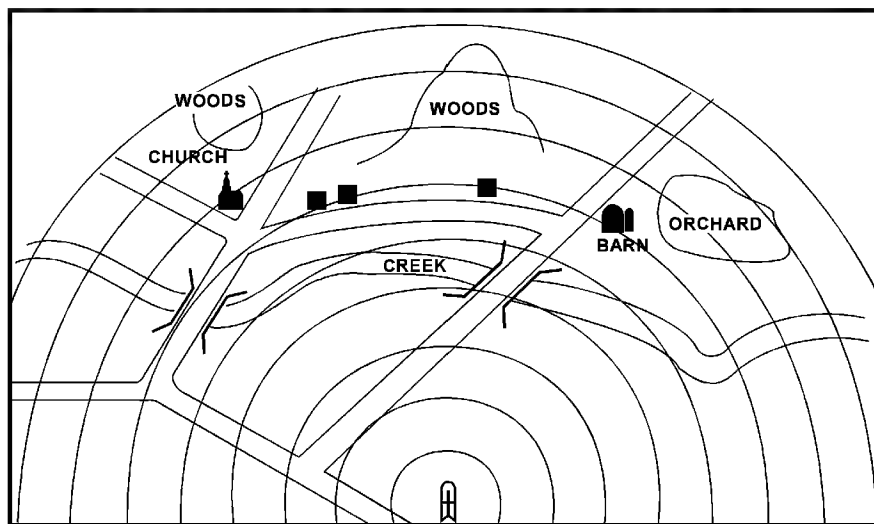

Figure B-5. Sector sketch.
The sector sketch section is a graphic representation of a gunner's sector of fire (Figure B-5). The sector sketch of the terrain should be a good representation since it becomes vital during periods of limited visibility
a. **Sketches.** The sketch should cover the entire assigned sector if possible. Make the sketch as large as possible, but do not exceed the limits of the largest circle. When depicting large natural objects (forests, hills, and so forth) or man-made objects (buildings, bridges, and so forth), draw the outline of the object and label it appropriately (Figure B-5). When sketching objects in the sector, locate them on or near the corresponding circle to denote range to the object.